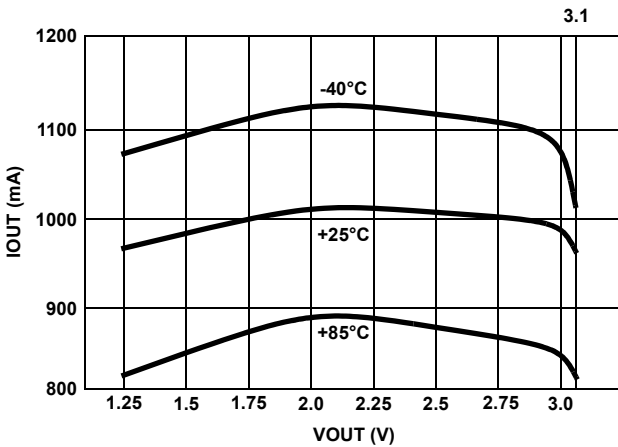
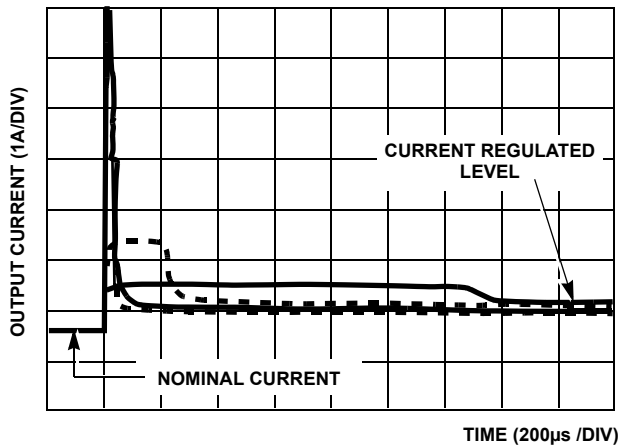
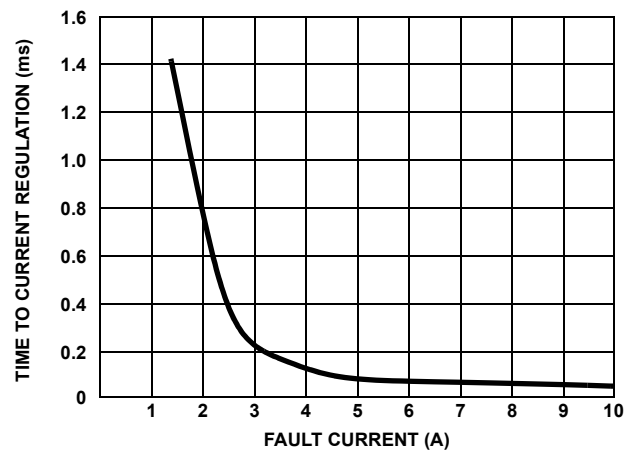

FIGURE 4. CURRENT REGULATION vs Vout (VIN = 3.3V)
FIGURE 6. OC TO CR SETTLING TIME WAVEFORMS
FIGURE 7. CR SETTLING TIME vs FAULT CURRENT
The ISL6119 has integrated current sensing on the power MOSFET that allows for rapid control of OC events. Once an OC is detected the ISL6119 goes into its current regulation (CR) control mode. The ISL6119 CR level is set to a nominal 1A. This current regulation is $\pm 25\%$ over the full operating temperature and voltage bias range. See Figures 4 and 5 for illustrative curves. The speed of this control is inversely related to the magnitude of the OC fault. Thus a hard overcurrent is more quickly controlled than a marginal OC condition. See Figure 6 for waveforms illustrating this and Figure 7 for an accompanying graph.